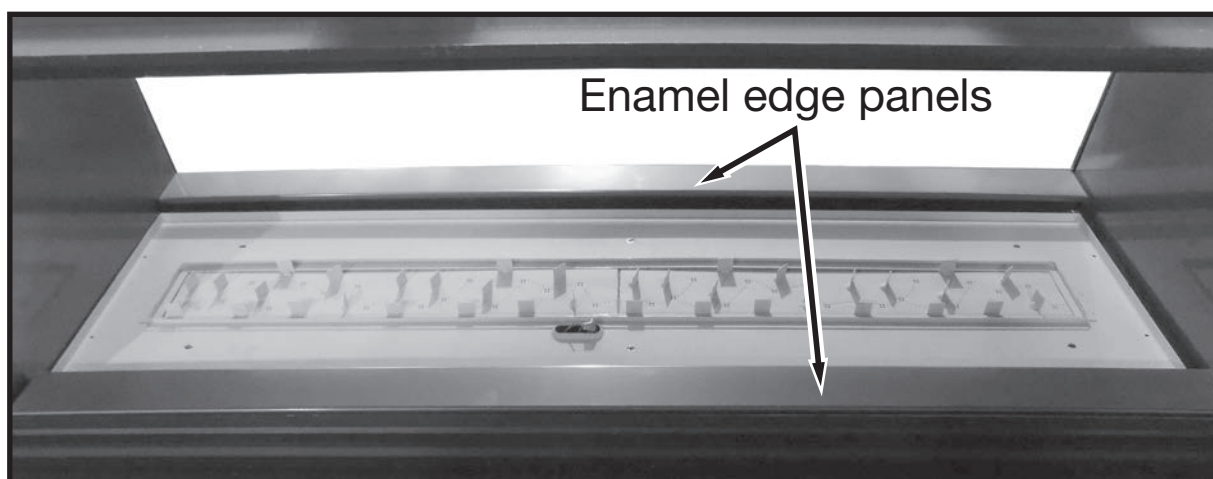
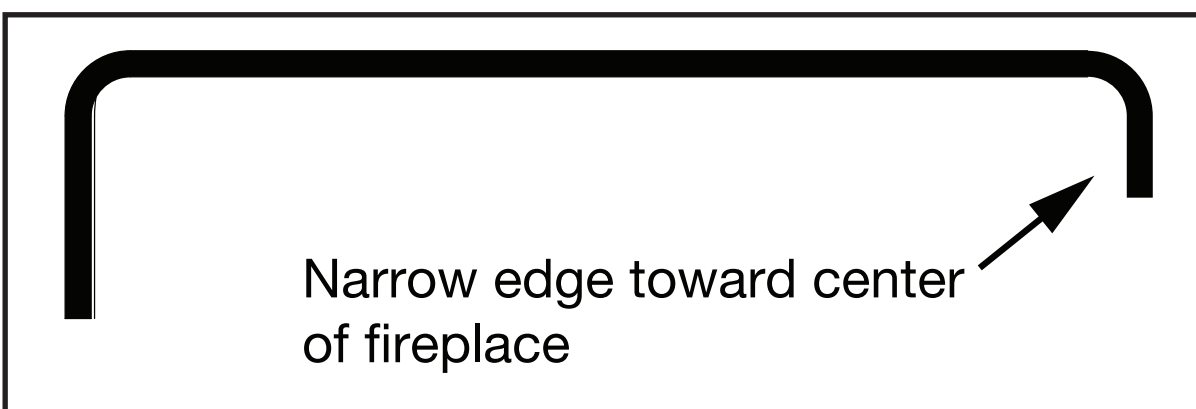

Figure 34: Edge panels in place.
Figure 35: Edge panel profile.
18. Place the two edge panels along the length of the fireplace (Figure 34) with the short side facing toward the center (Figure 35).